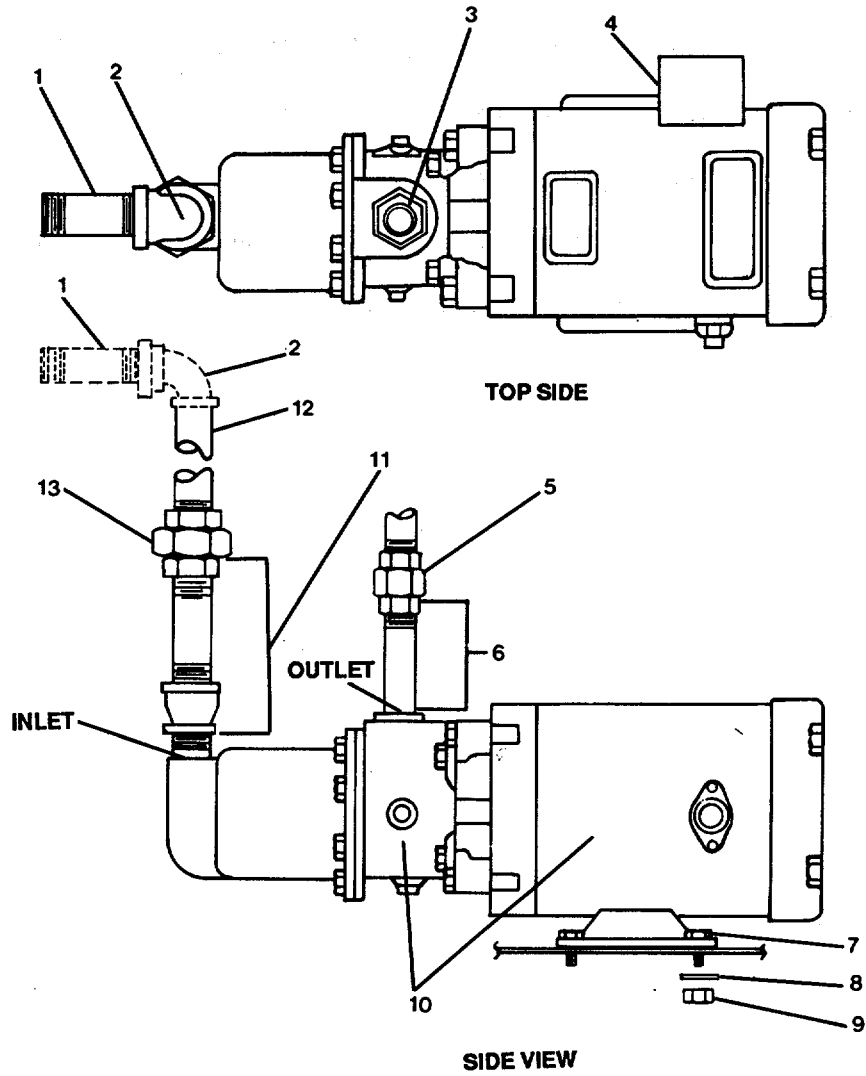

FIGURE 3-28. *Oil Pump/Motor Assembly.*
- g. Connect pipe nipple (17) and solenoid valve (16).
- h. Install and connect liquid transmitter (20).
- i. Connect pipe elbow (5), pipe nipple (7), and stop check valve (6).
- j. Connect relief valve (21).
- k. Connect sight glass (23).
- l. Attach preformed packing (24) and packing retainer (4) on vessel cover.
- m. Connect pipe nipple (1), pipe elbow (2), and ball valve (3).
**3-31. Replace Oil Pump/Motor Assembly. (Figure 3-28)**